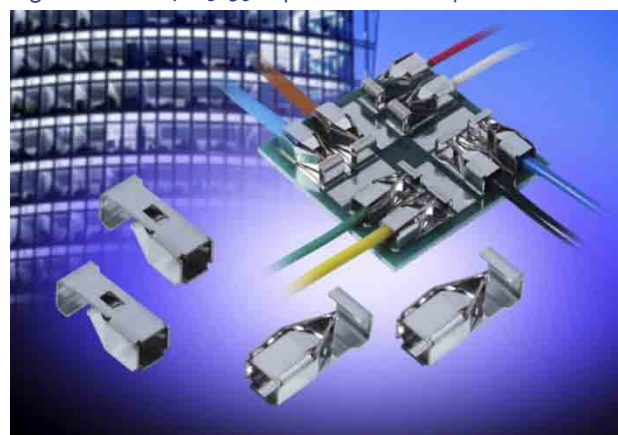
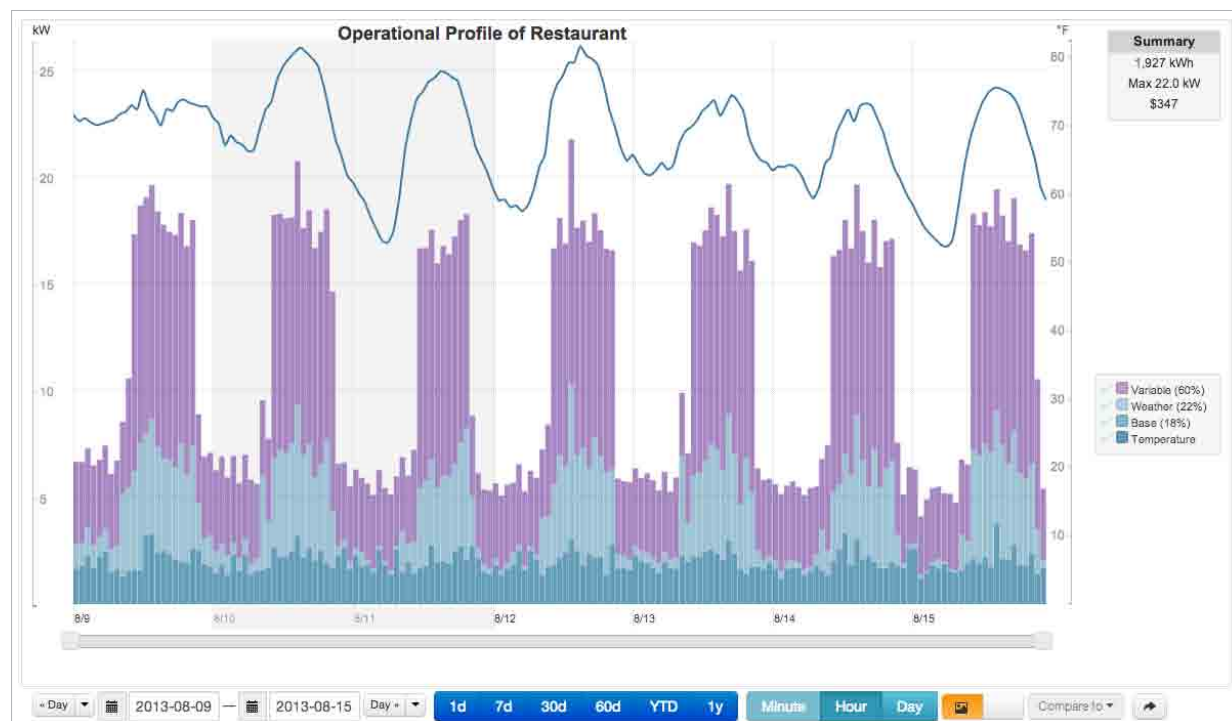

Figure 2: AVX's 9296 SMT single poke, dual-beam, closed-boxed contact system
Figure 3: Facility energy summaries enhance system management
Figure 3: AVX's 9176 IDC contact still satisfying all of the general SSL connector requirements with regards to size, cost, power, placement, and ease of assembly and disassembly. In response, the team created a unique surface-mount, closed-box contact system (see **Figure 2**) that provides simple, reliable poke home wire insertion and maximum wire retention with dual opposing high spring-force contact beams. In order to function like a connector, the box was designed with top and bottom contact tines that guide a stripped wire into the center of the contact zone and an integral end-stop to ensure proper insertion depth. There, the dual contacts mechanically hold and make constant electrical contact with the wires. In addition to facilitating wire guidance and high force retention, the novel, single-position, 9296 closed-box contact also features an enhanced solder pad for maximum mechanical stability on the PCB, enables easy twist-out wire removal, and is packaged on tape and reel for
The team also developed a smaller and more cost effective single-contact iteration of its high-reliability, gas-tight, wire-to-board 9176 surface-mount insulation displacement connector (see **Figure 3**). Despite its stripped-down appearance, the 9176 contact makes no concessions with regards to mechanical or electrical performance; it is capable of handling high current (up to 10A), compatible with automatic placement, and able to withstand the harsh environment and match the extended lifetime of an SSL luminaire. Developed for SMT termination to the PCB, the singular SSL contact provides robust PCB attachment, supports 18-28AWG, and fulfills all of the standard SSL connector requirements.
Continuous data collection makes compliance with these regulations easy, at a cost comparable with time-limited audits. Once the Enertiv E1 system has been installed, a facilities/energy manager can review multiple properties from one console and stay constantly informed with email notifications and regular energy summaries and reports that are automatically provided by the system (see Figure 3). Together with the Enertiv Pulse (EP), it is possible to tie in electrical data along with other forms of resource consumption, such as oil, water, and gas to achieve a full real-time perspective on the health and well being of a building. Typical facilities which can best benefit from this system are office buildings, light manufacturing facilities, municipalities, schools,